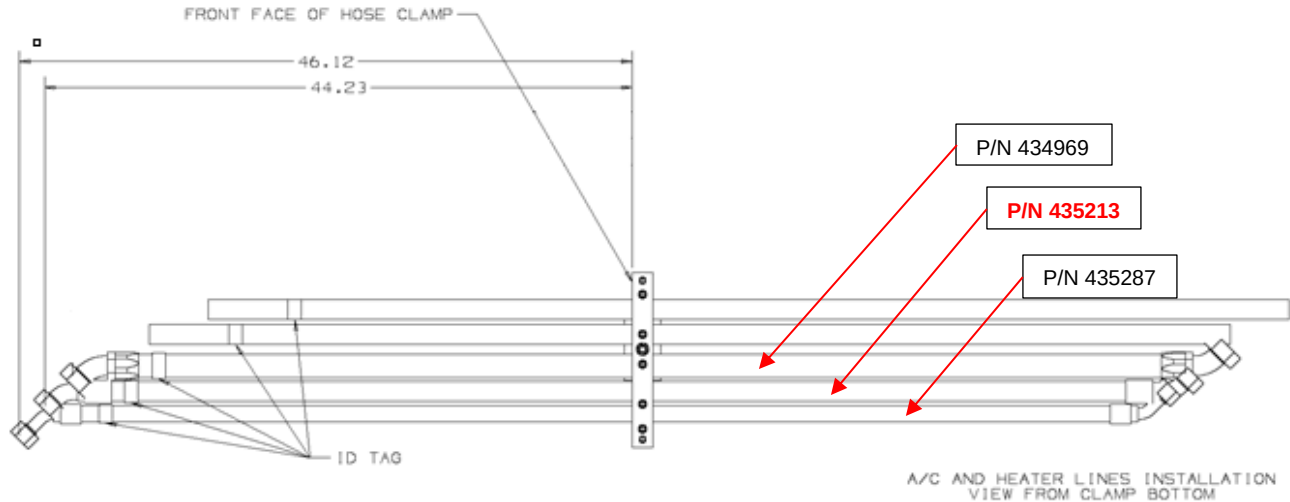

Figure 4: Locations to mark A/C hose reference.
12. Install the new replacement AC hose (NF P/N 435213) in their respective positions in the center clamp, aligning the marks with the forward edge of the center clamp. Reinstall the center clamp end bolt but leave the bolts loose. See figure 4.